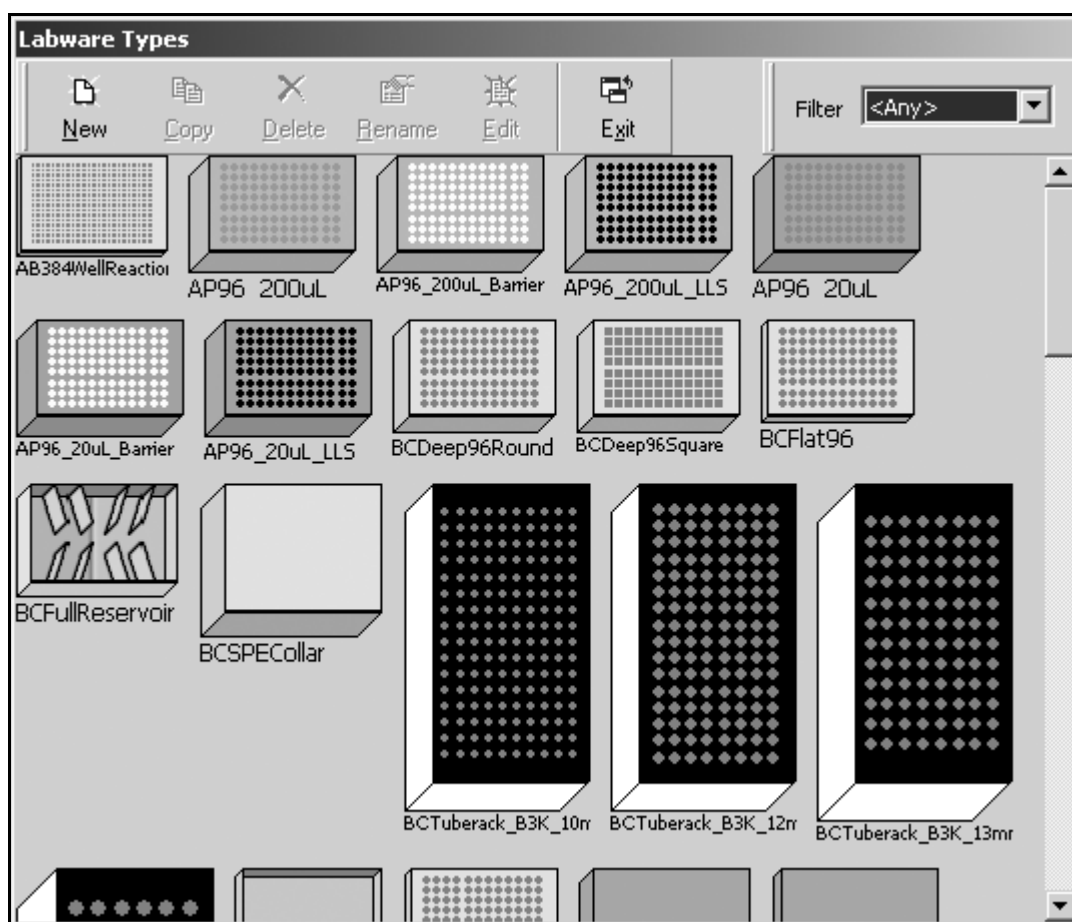

Figure 3-2. Labware Types
1. From the Project menu, choose **Labware Type Editor**. Labware Types appear (Figure 3-2)